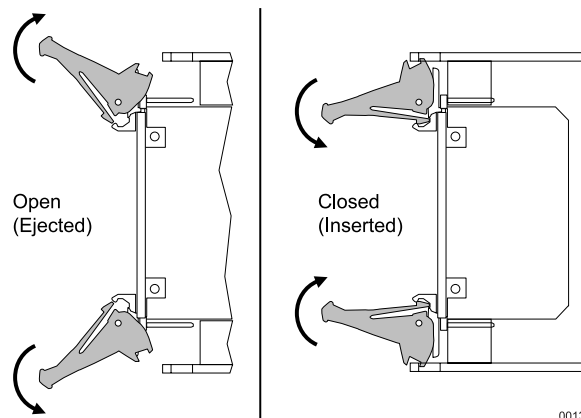

Figure 5-4. Module Extractors
- Step 4** Flip the card ejectors (Figure 5-4) and wait for the Hot Swap light (the blue laser at the bottom of some cards).